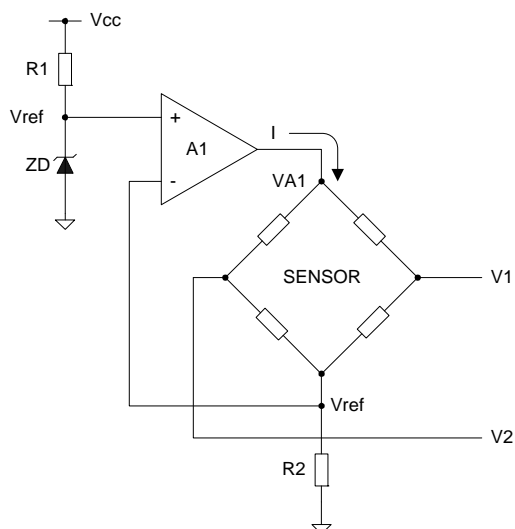

Fig.1 Constant current source
For Fujikura pressure sensor, a constant current source as shown in Fig. 1 is recommended. A reference voltage (V_{ref}), which is generated by zener diode or voltage reference device, is applied to the non-inverting terminal of the operational amplifier (A1). The inverting terminal voltage of A1 is equal to the V_{ref} , then the constant current(I) is :
One part of the bridge connection of the FPM is opened. If offset calibration is required, a zero balance trimmer should be connected like Fig. 2. Or, a closed bridge connection, like Fig. 1, is also available, if zeroing should be done at the back end signal conditioning circuit.